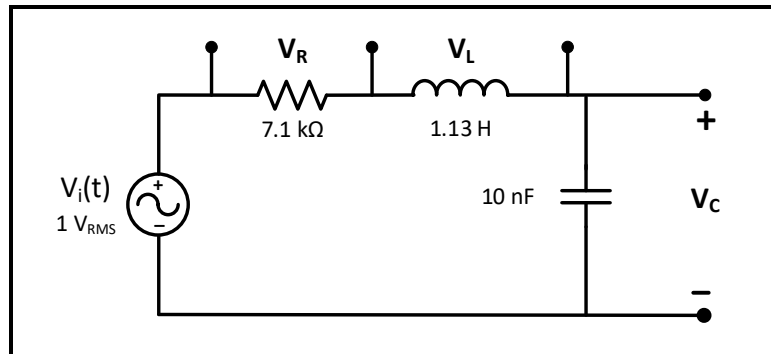

Figure 11.5
1. Connect the circuit of Figure 11.5, with a sinusoidal input voltage at 1 V_{RMS} , use decade box for R.